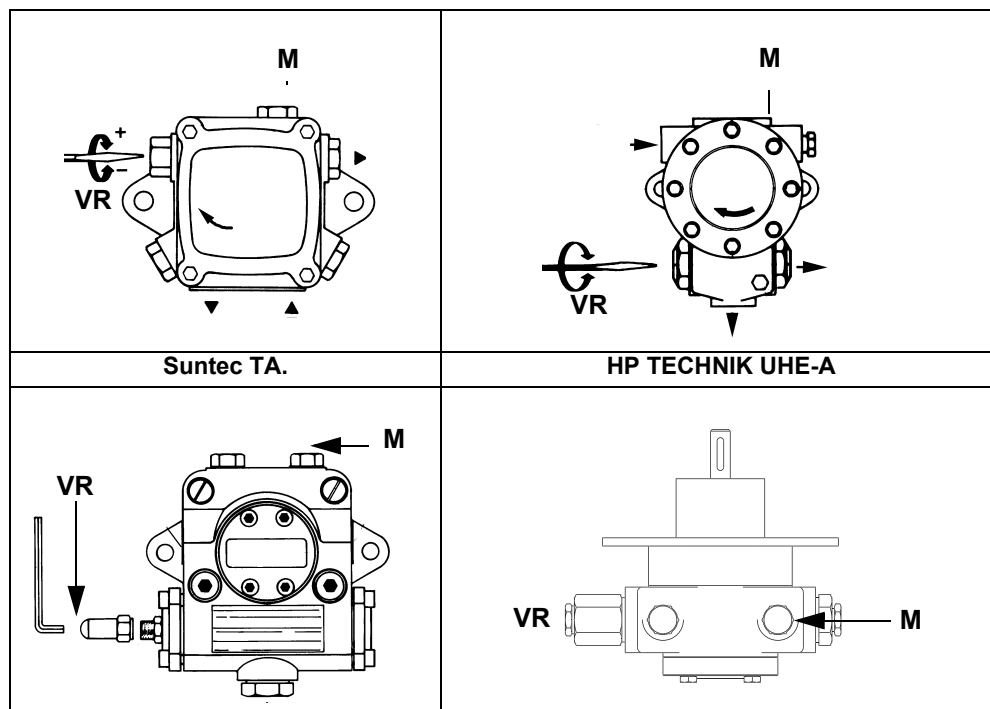

Fig. 8
- 2 bleed the air from the **M** pressure gauge port (Fig. 8) by loosening the cap without removing it, then release the contactor.
- 4 Fig. 9 Fig. 10 the nozzle supply pressure is already factory-set and must not be changed. Only if necessary, adjust the supply pressure as follows (see related paragraph); insert a pressure gauge into the port shown on Fig. 9-Fig. 10 and act on on the pump adjusting screw **VR** (see Fig. 8) as to get the nozzle pressure at 20bar (Bergonzo nozzles - see diagram on Fig. 7).